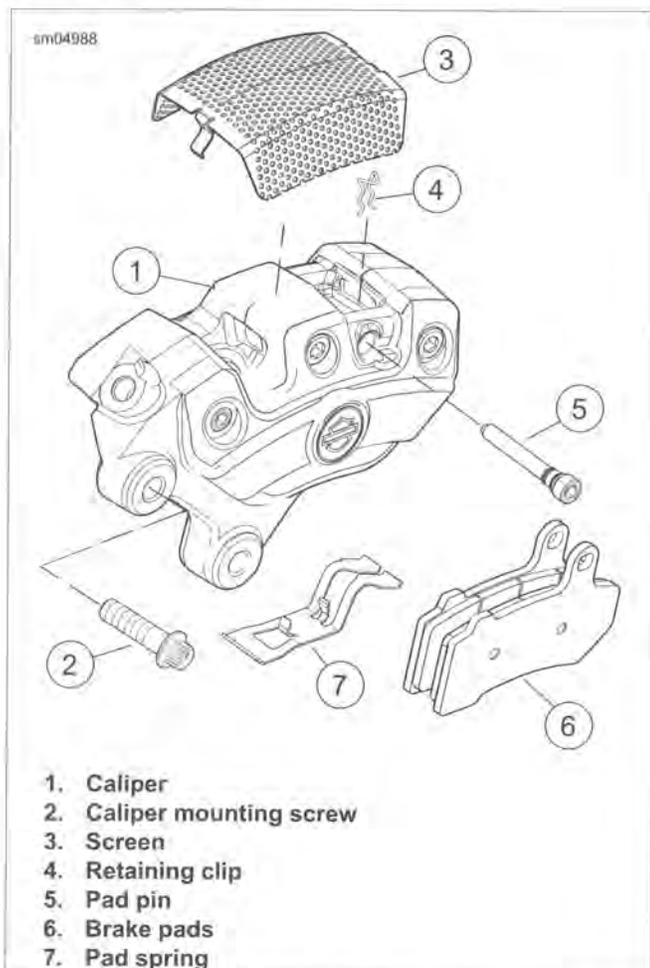

Figure 2-46. Front Brake Caliper Assembly
2. See Figure 2-46. Remove two caliper mounting screws (2) and remove caliper from brake disc.